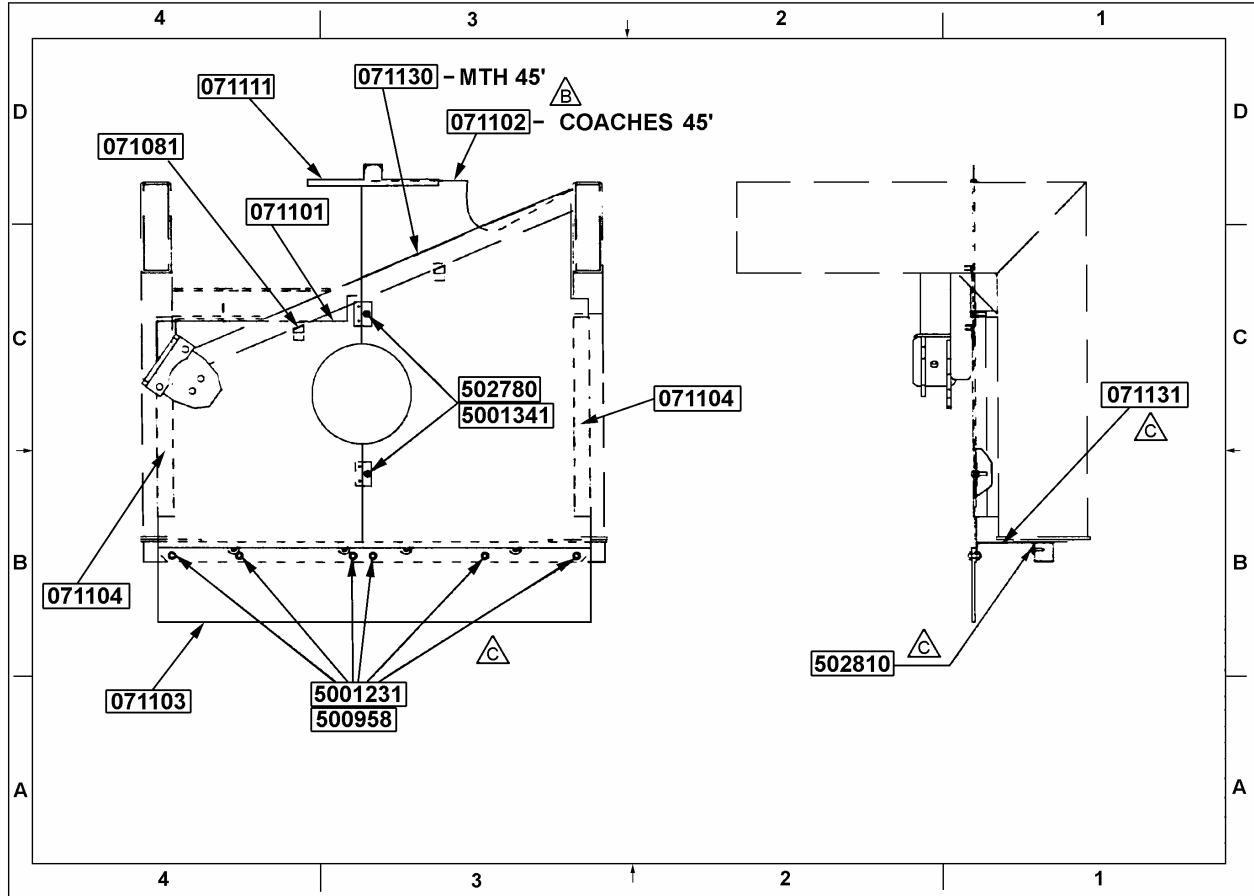
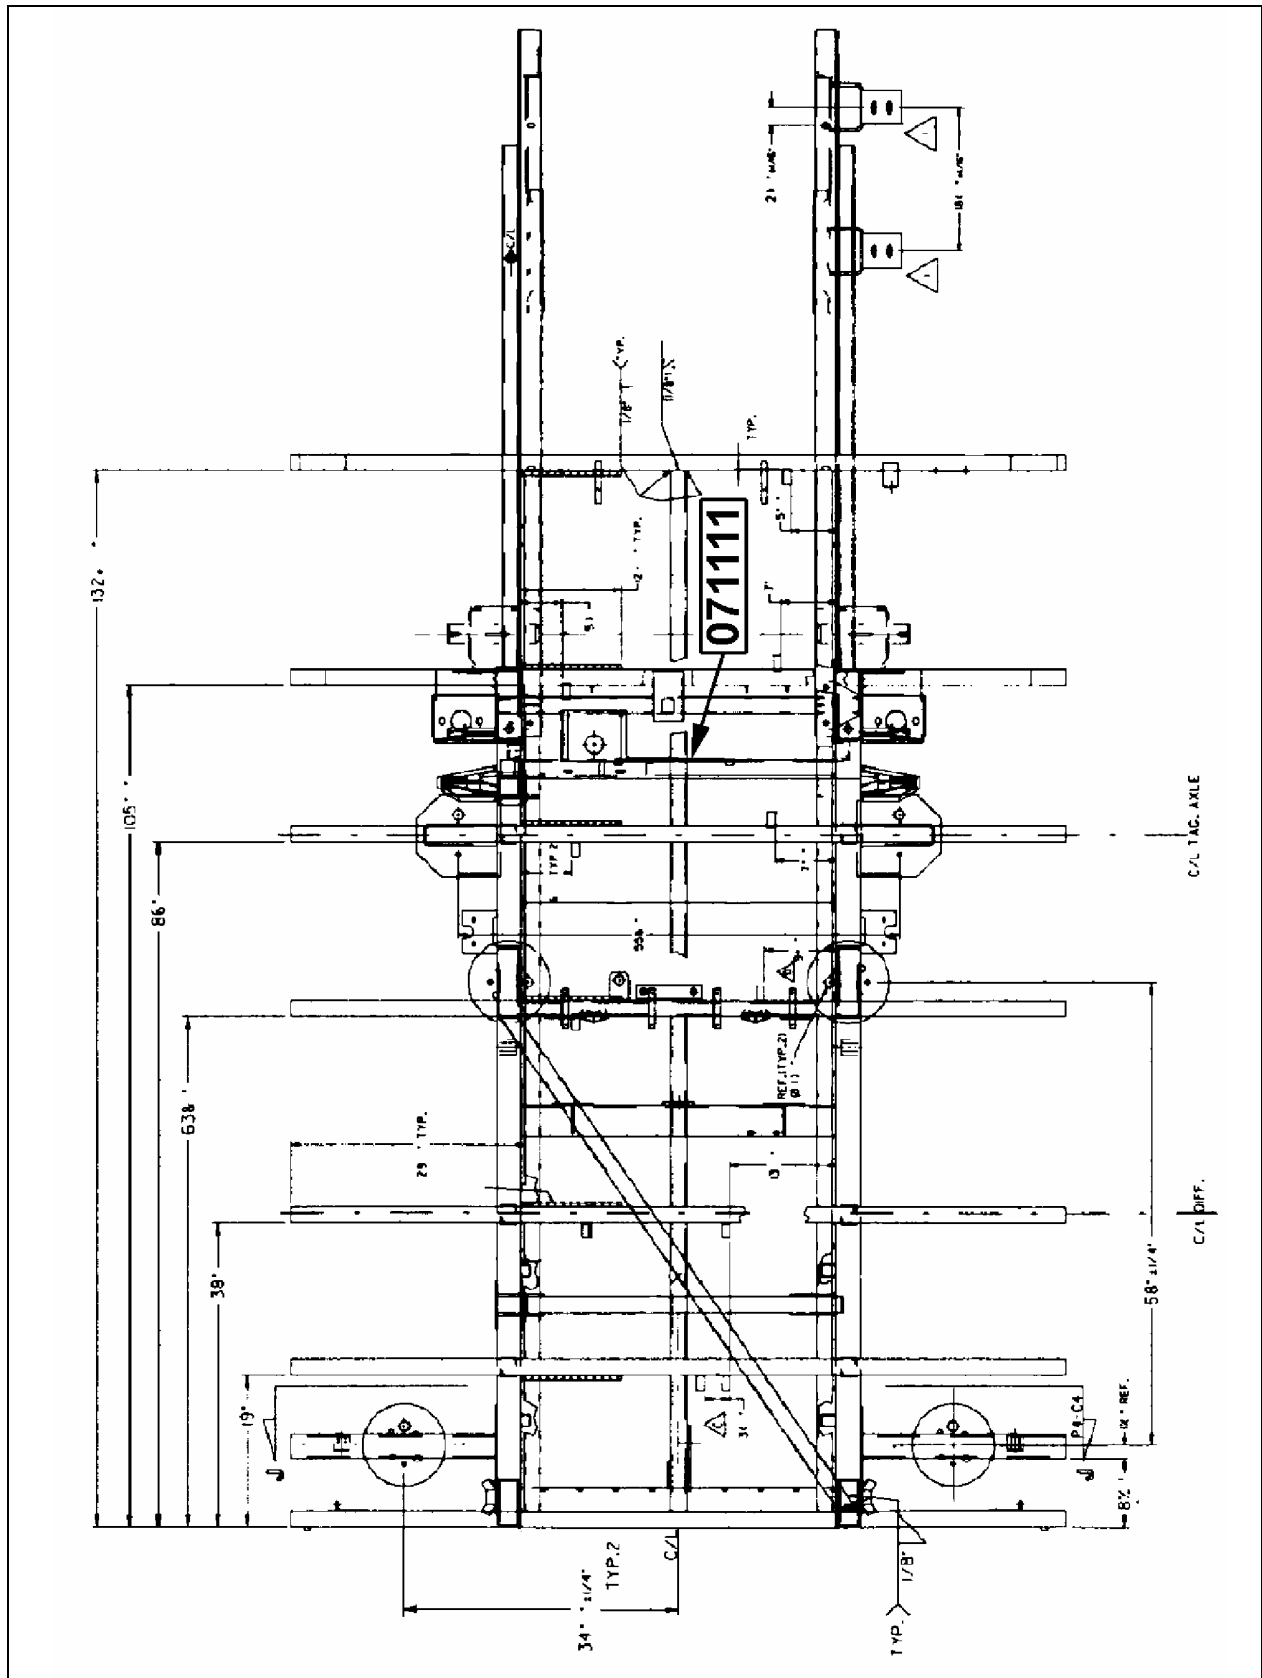

FIGURE 1 : XL SERIES VEHICLES TRANSMISSION PROTECTIVE PANELS
FIGURE 5 : REAR SUBFRAME BRACKET (PRÉVOST #071111) INSTALLATION
1. Weld the two brackets (Prévost #071081) to the crossmember referring to figures 1 and 2 welding specifications. Weld the two lateral brackets (Prévost #071104) to the pillars (refer to figures 3 and 4). Allow welding to cool then remove slag. Recoat welded surfaces.
2. Secure bracket (Prévost #071131) to the crossmember using four screws (Prévost #502810). Slide left (Prévost #071130) and right (Prévost #071101) protective panels into the lateral brackets high enough to be able to support them by the two brackets (Prévost #071081). Fix the two protective panels using two screws (Prévost #502780) and washers (Prévost #5001341). Install rubber protective panel (Prévost #071103) and secure the assembly including the protective panel (Prévost #071103), left and right protective panels and bracket (Prévost #071131) using six screws (Prévost #5001231) and washers (Prévost #500958) (refer to figure 1).
1. Weld the two brackets (Prévost #071081) to the crossmember referring to figures 1 and 2 welding specifications. Weld the two lateral brackets (Prévost #071104) to the pillars (refer to figures 3 and 4). Weld the bracket (Prévost #071111) to rear subframe ceiling (refer to figure 5). Allow welding to cool then remove slag. Recoat welded surfaces.
2. Secure bracket (Prévost #071131) to the crossmember using four screws (Prévost #502810). Slide left (Prévost #071102) and right (Prévost #071101) protective panels into the lateral brackets high enough to be able to support them using the two brackets (Prévost #071081) and insert the top part of left protective pannel into the bracket (Prévost #071111). Fix the two protective panels using two screws (Prévost #502780) and washers (Prévost #5001341). Install rubber protective panel (Prévost #071103) and secure the assembly including the protective panel (Prévost #071103), left and right protective panels and bracket (Prévost #071131) using six screws (Prévost #5001231) and washers (Prévost #500958) (refer to figure 1).